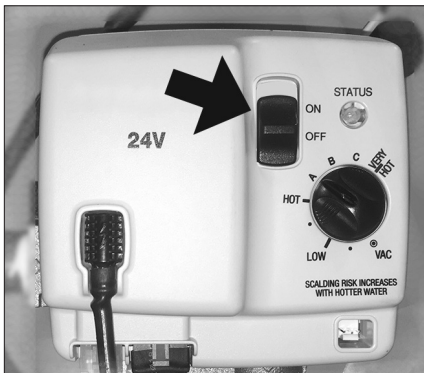

Figure 44 - Move switch to OFF position.
- 1 Move the ON/OFF switch on the gas control valve/thermostat to the "OFF" position to turn off the water heater (see Figure 44).